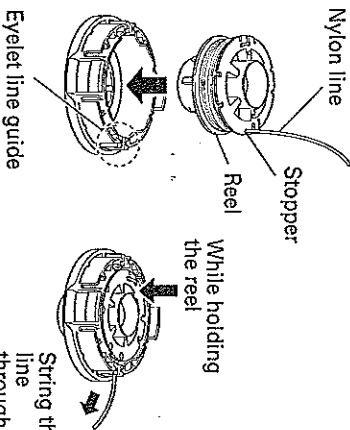

Fig. 22
- (6) Align the position of the stopper and eyelet line guida and then insert the button through the case. Release the line from the stopper while holding the reel lightly, and then string the line through the eyelet line guida. (Fig. 22)